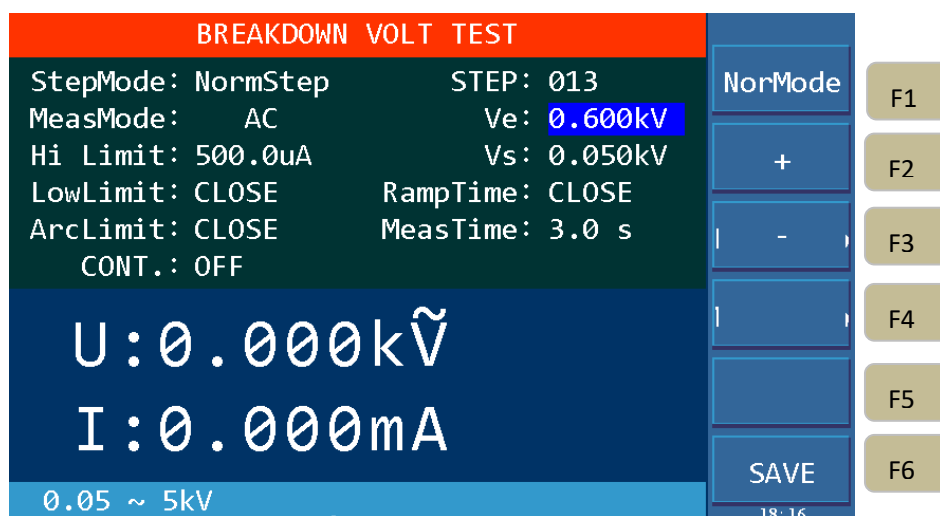

Figure 4-22
8. 4. Start the test after setting is completed. As shown in Figure 4-22